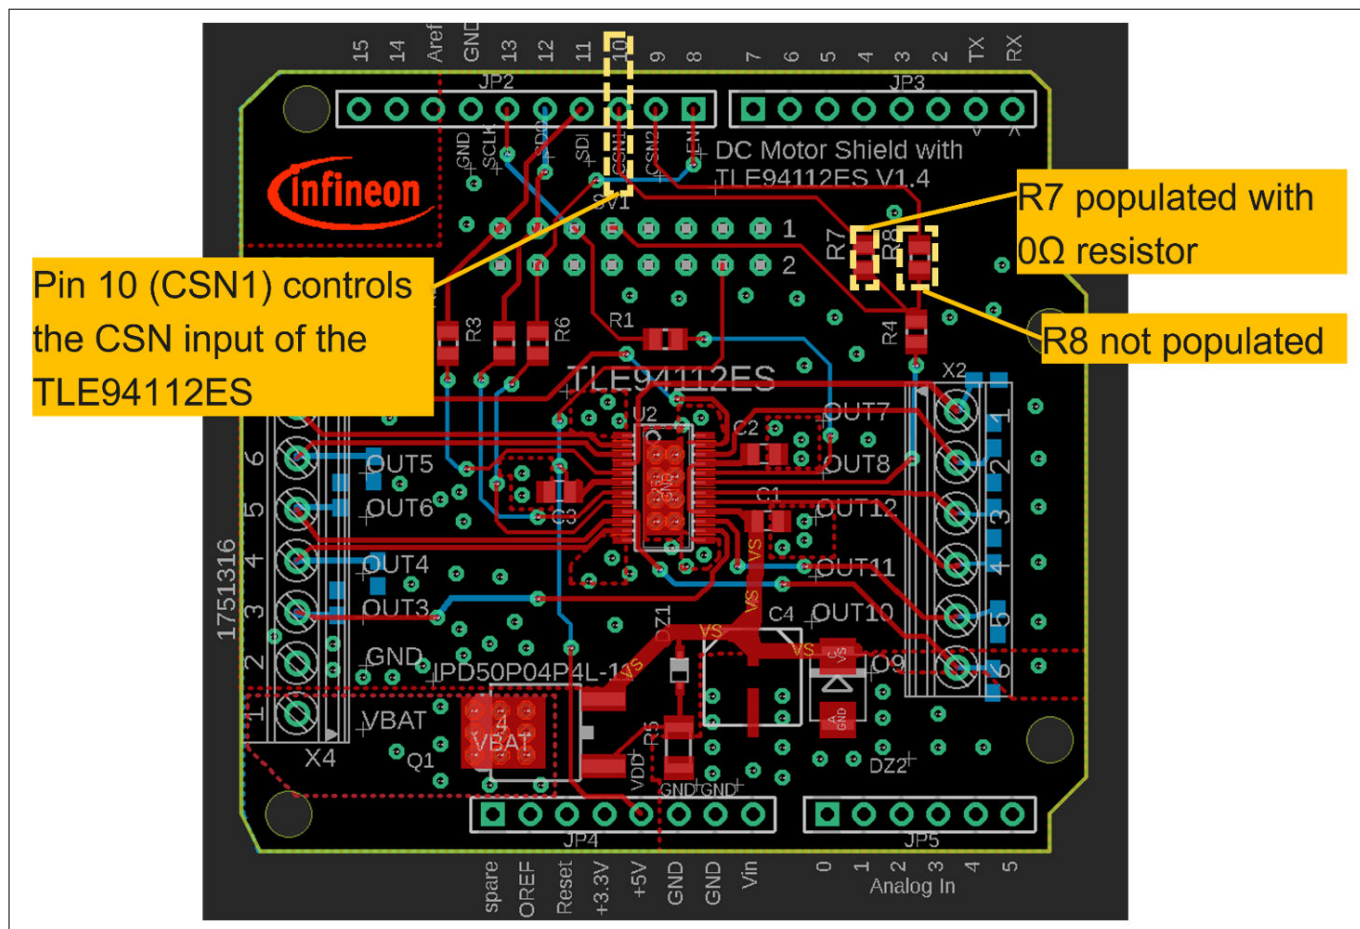

Figure 8 Control of CSN of TLE94112ES by pin 10 (CSN1)
Pin 10 of the Arduino UNO is used by default to control *chip select negated (CSN)* (Negated Chip Select) input of the TLE94112ES (Figure 8).
- The TLE94112ES of one DC Motor shield is controlled by pin 10 (default setting, Figure 8)